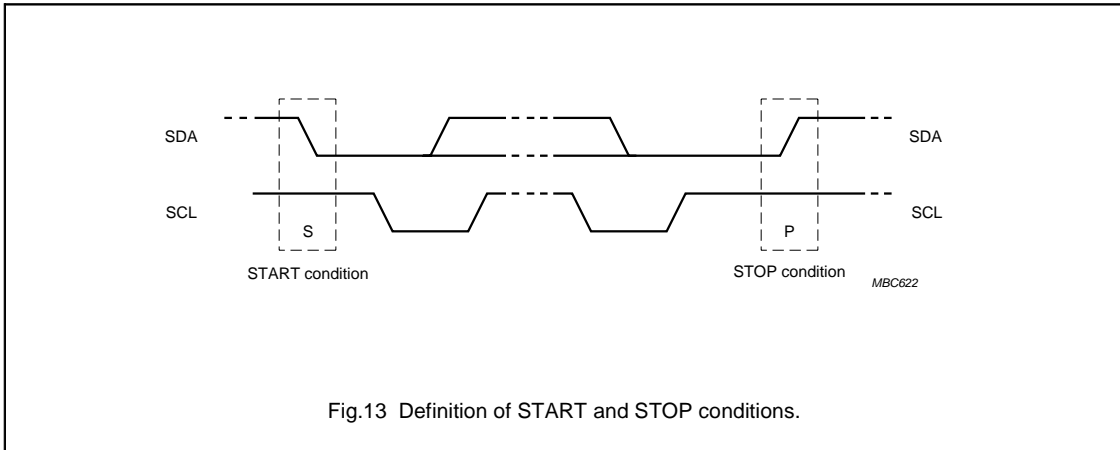

Fig.13 Definition of START and STOP conditions.
Both data and clock lines remain HIGH when the bus is not busy. A HIGH-to-LOW transition of the data line while the clock is HIGH is defined as the START condition (S). A LOW-to-HIGH transition of the data line while the clock is HIGH is defined as the STOP condition (P), (see Fig.13).